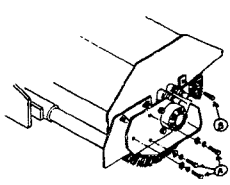

FIGURE 1
2. Using a 3/4" socket, remove the (3) 1/2" bolts (A. In Figure 1) that secures the Broom Motor Mount Assembly. Then using a 9/16" socket remove the 3/8" bolt from the front of Broom Motor Mount Assembly (B. In Figure 1).